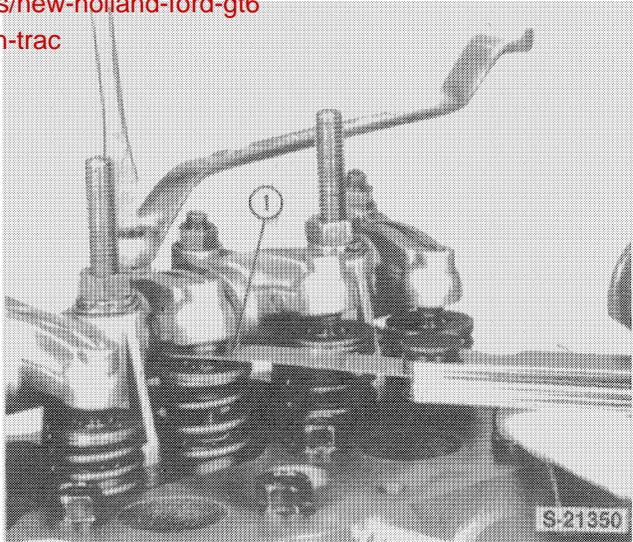

FIGURE 1-51
8. Adjust the rocker arm clearance, Figure 1-51. Be sure the tappets are in their lowest position before making the adjustment as follows: